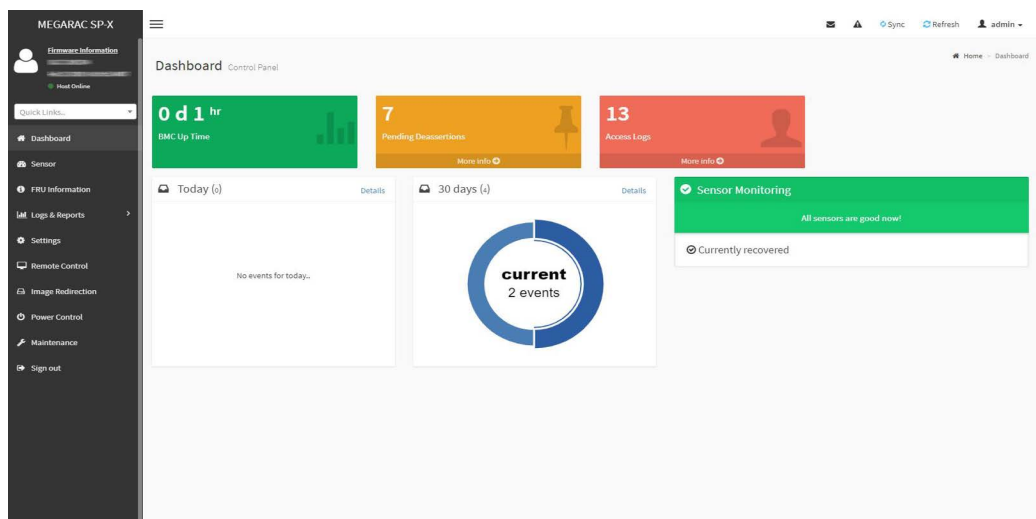

Figure 4.5 Dashboard menu
4. The BMC WebUI automatically displays the Dashboard as shown in Figure 4.5 on page 54.